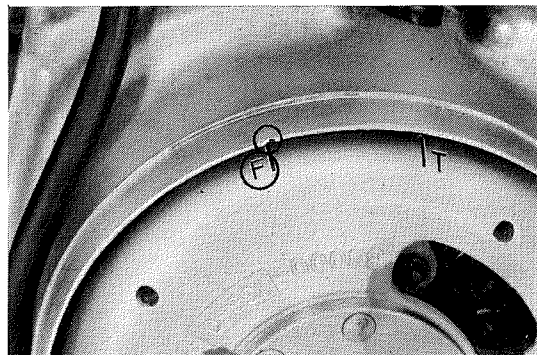

Fig. 5 ① "F" mark
3. If adjustment is necessary, loosen the contact breaker point screw, insert a screw driver into the slot and move the breaker plate. Turning the plate clockwise will retard the timing and counterclockwise will advance it. Tighten the screw after adjustment was made. (Fig. 5)